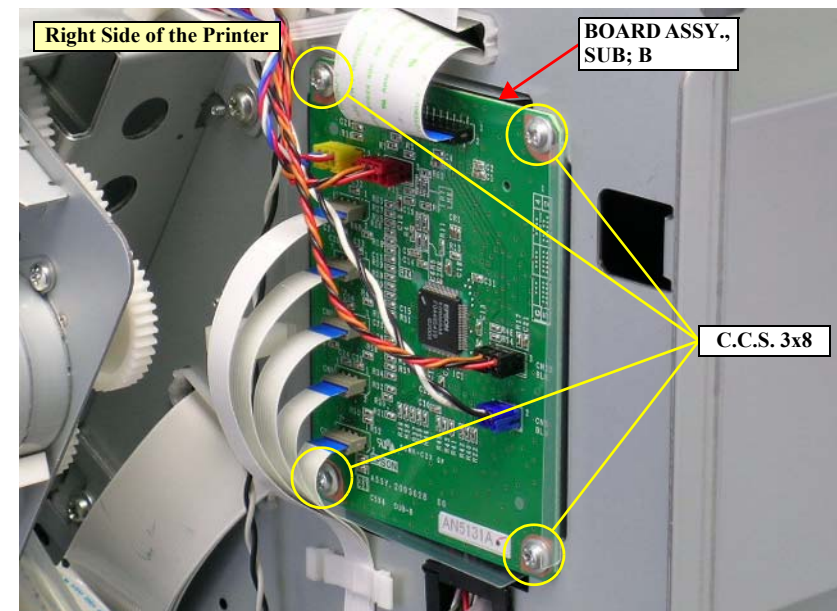

Figure 4-48. Removing the BOARD ASSY., SUB; B
3. Remove the four screws that secure the BOARD ASSY., SUB; B and remove it. *See Figure 4-48.*